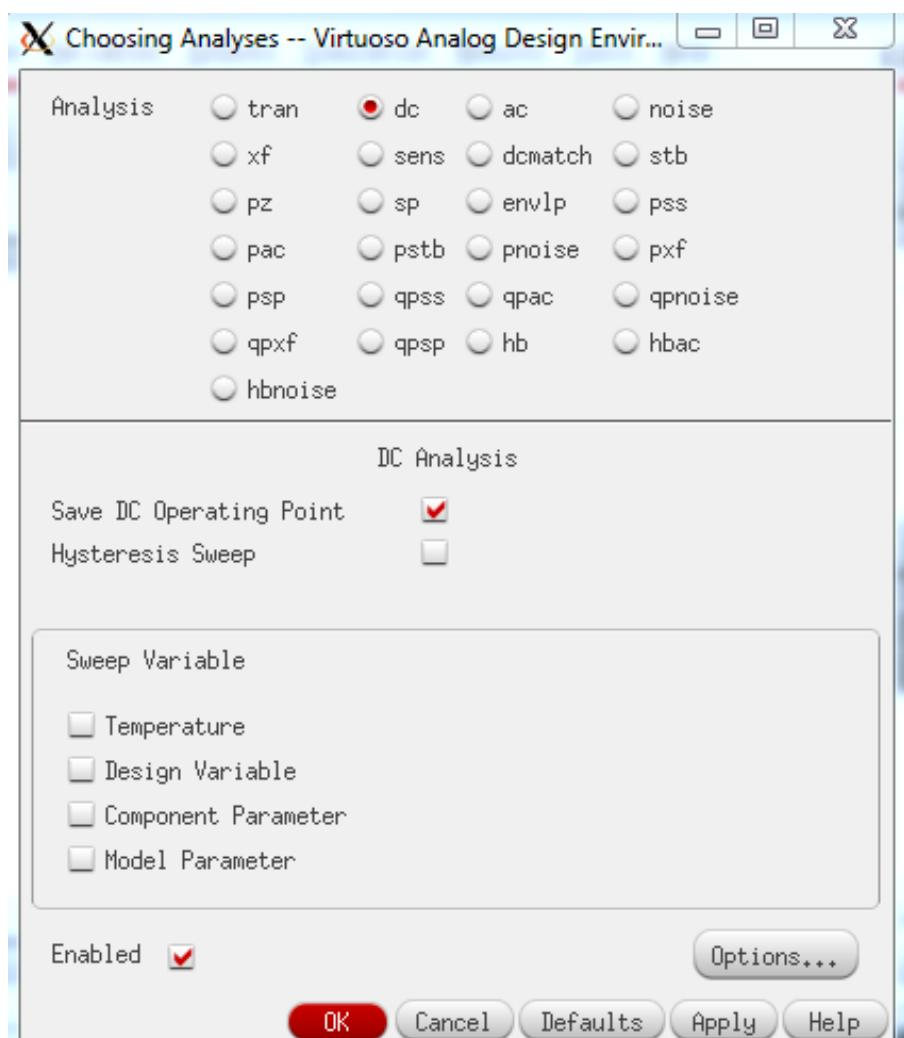

Figura A.35: Virtuoso ADEL - DC analyses.
2. activam butonul *Enabled*, exact ca in Figure A.35.